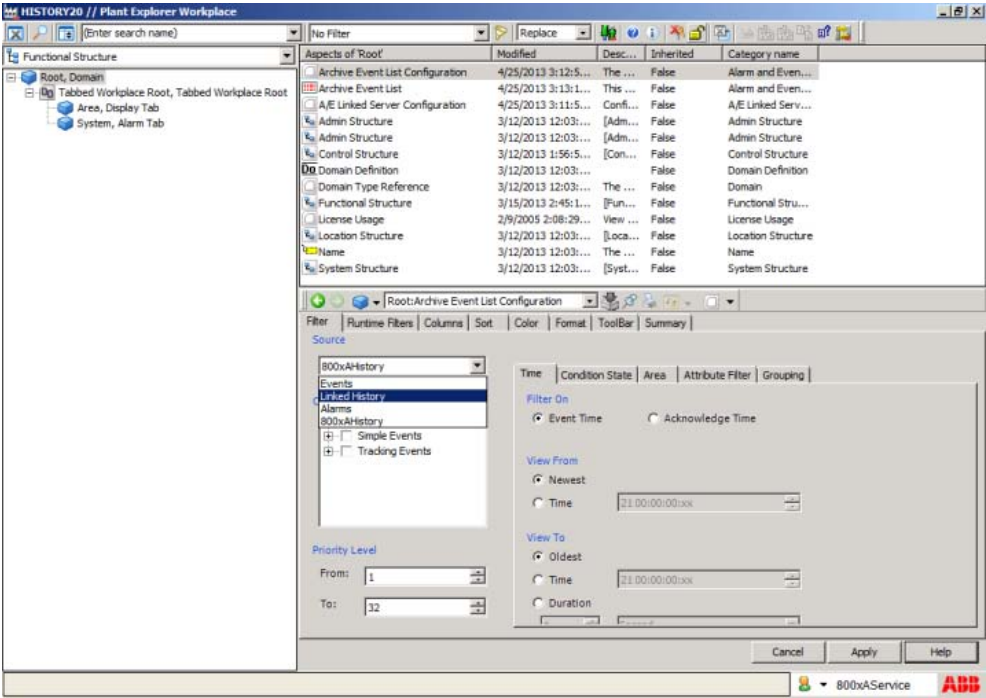

Figure 254. Archived Event data retrieval
- 1. Select Linked History from Source drop-down list as shown in Figure 254.